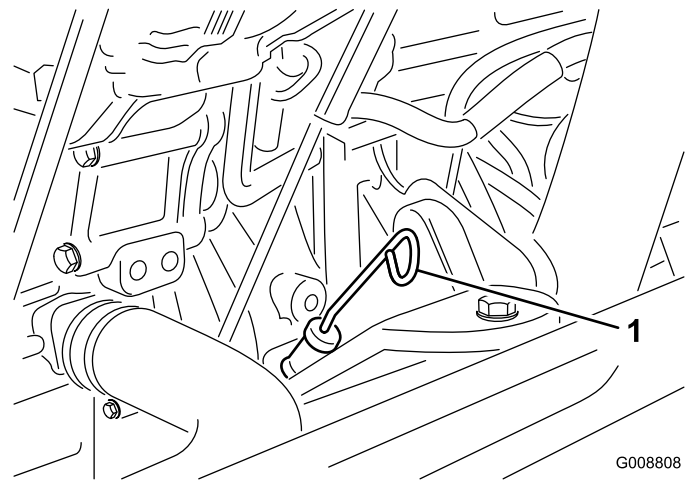

Figure 8
3. Remove the dipstick, wipe it clean, install the dipstick into the tube, and pull it out again. The oil level should be up to the Full mark (Figure 8).